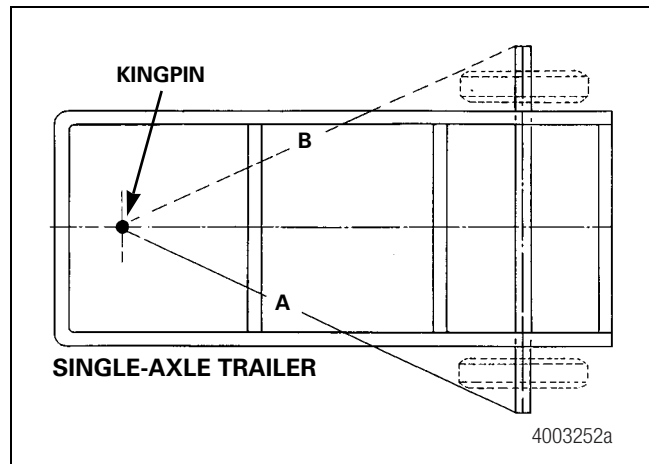

Figure 8.8
4. Attach a steel measuring tape to a hook. Attach the hook to the kingpin and measure distance “A” on the roadside and “B” on the curbside of the trailer. Figure 8.8. The difference between these dimensions must not exceed ± 0.0625 inch (± 1.59 mm). Adjust the axle, if necessary, to bring this difference within specification.